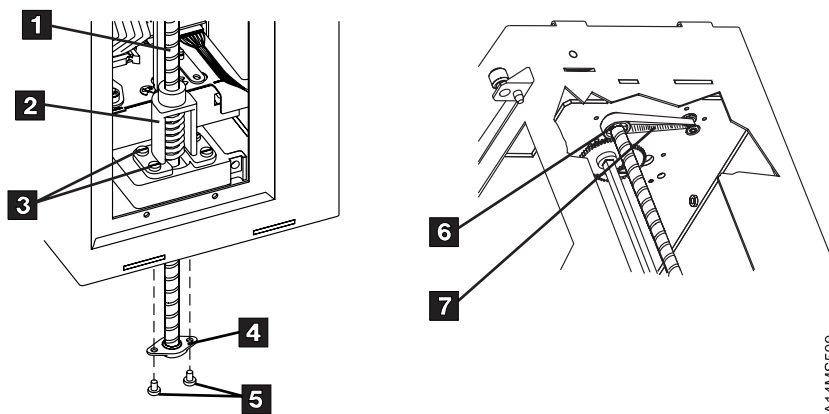

Figure 10-38. Leadscrew and Leadscrew Drive Belt
4. See Figure 10-38. Rotate the elevator leadscrew **1** to position the elevator assembly all the way to the bottom of the ACF.